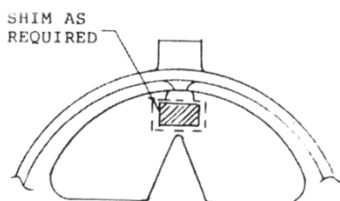

Figure 6-3:
8. If no clamping action, as described in step 7 is experienced, place a shim on the end of the reed holder where the rear cover plate will bear (see Figure 6-3). We normally use 1, 2, or 3 thicknesses of ordinary masking tape. If more than two thicknesses are required, the additional thicknesses should be divided evenly between the front and rear of the reed holder.